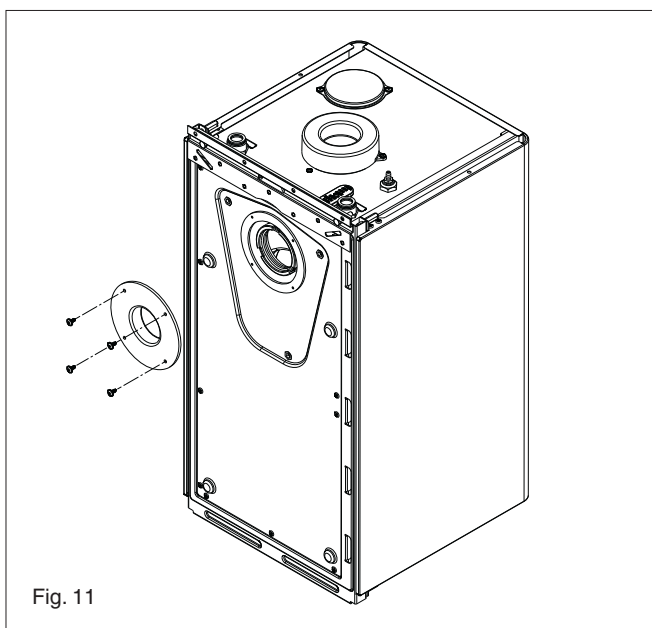

Fig. 11
- Remove the screws that secure the rear flue blanking plate; discard the plate and the gasket (fig. 11), retain the screws as these will be required to secure the rear flue terminal to the appliance.